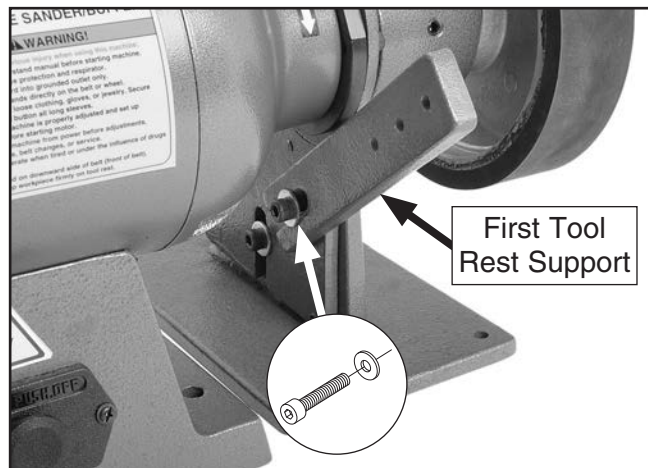

Figure 16. First tool rest bracket installed.
17. Mount the first tool rest support that is flat on both sides to the back of the arm bracket with the $\frac{5}{16}$ "-18 x $\frac{3}{4}$ " cap screw (the shortest of the three) and flat washer removed in **Step 16**, as shown in **Figure 16**.